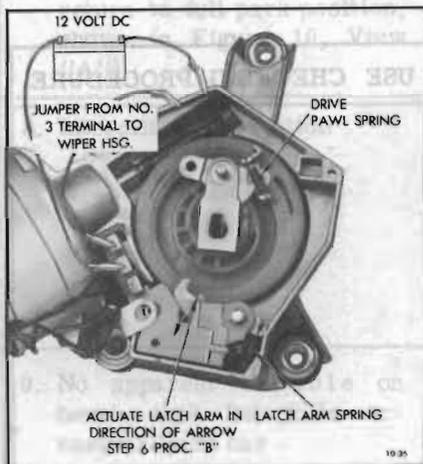

Figure 10-36—Checking Operation of Relay and Latch Arm
a. Observe if relay latch arm spring is connected properly. See Figure 10-36.
wiper and connect jumper wire from Terminal No. 3 to wiper housing, Figure 10-36. Do not make any connections from Terminal No. 1. Manually actuate latch arm in direction of arrow and observe if it remains in energized position (inside plastic switch housing out of patch of gear drive pawl). If it remains in energized position, check for grounded red leads from coil to Terminal No. 1. If red lead is not grounded, coil is probably grounded internally and relay switch should be replaced.
a. Check that drive pawl and relay latch arm springs are properly connected as shown in Figure 10-36.
(1) Solder joint at No. 3 wiper terminal.
(2) Splice joint - black lead with pink stripe to field coil leads.
(3) Splice joint - black lead to field coil.
(1) Remove small amount of insulation from black lead with pink stripe and connect test light between exposed wire and wiper housing.
(2) Connect power source and jumper to wiper as shown in Figure 10-36 and observe if test light goes out once for each revolution of gear or if light glows steady. If light glows steady, relay switch contacts are not opening and switch is defective. If light goes out each time drive pawl moves into relay switch
a. Check for grounded condition in the internal black lead that connects to wiper terminal No. 3. Refer to Figure 10-36 for Terminal No. 3 location.